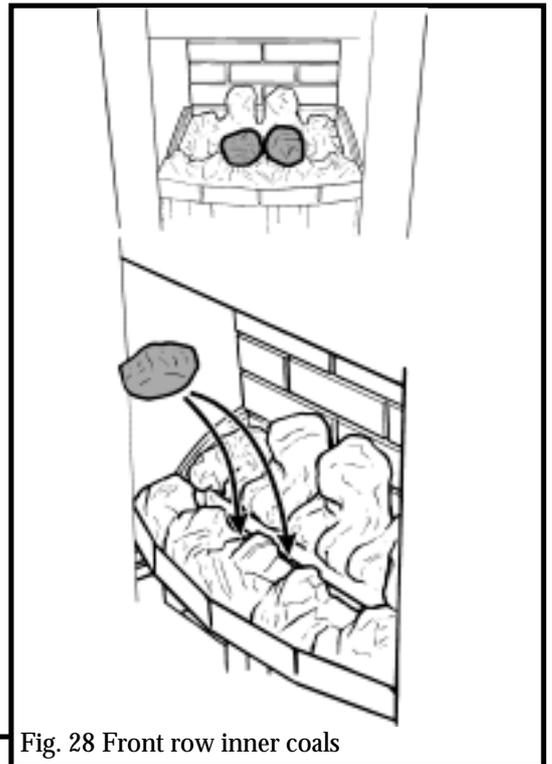

Fig. 28 Front row inner coals
10.5.1 Select the two largest coals. Place them in the central two valleys of the front coal (See figure 28).